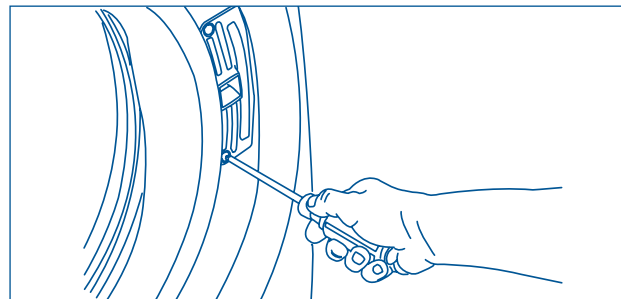

Figure 2-15.
1. Remove 2 short, course-thread, panhead screws from the door lock. (See Figure 2-15)